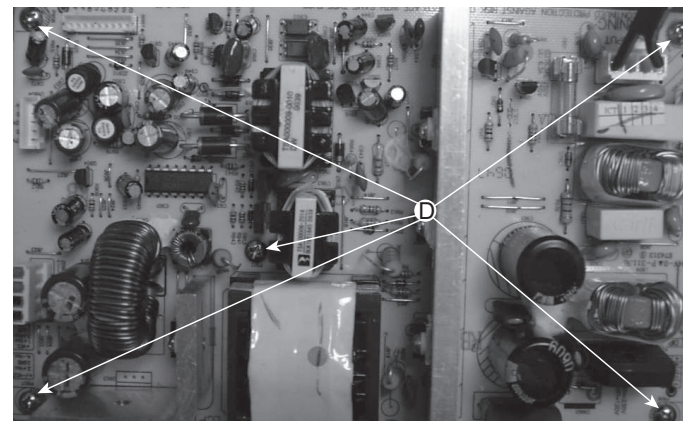

Figure 7
- 1) Loosen 5 screws "D" at the top of the Power Board as shown in figure 7